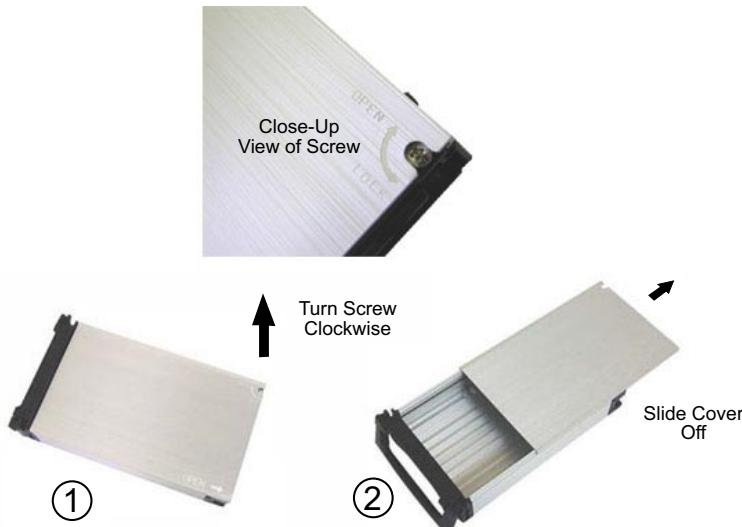

Figure 4: Cover Removal
1. Remove cover from the carrier by turning screw clockwise. Slide the cover off carrier (Figure 4).